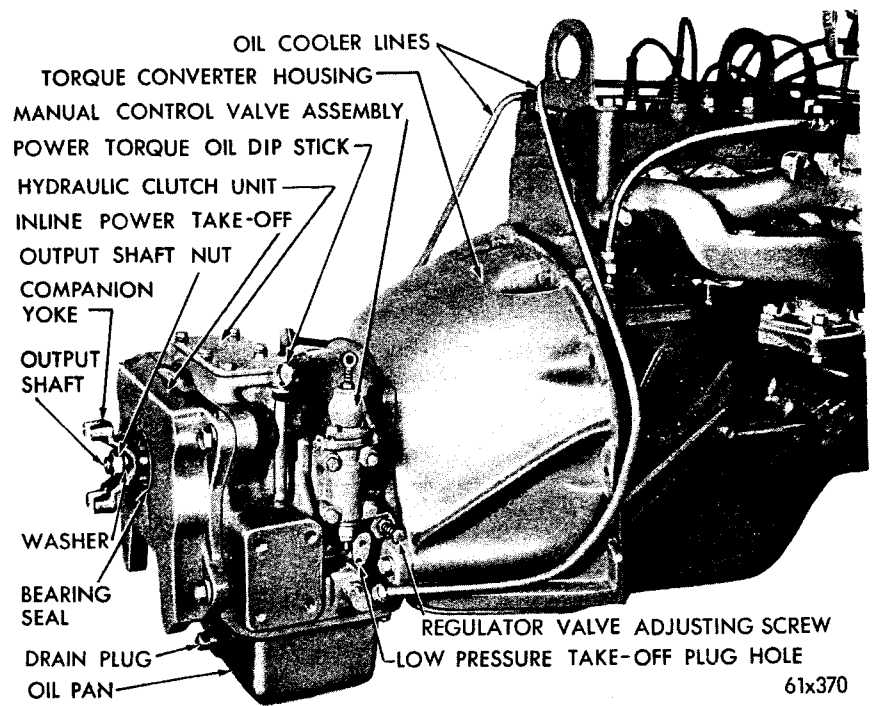

Figure 24 — In-Line Power Take-Off With Power Torque
- (1) A straight line PTO (Fig. 24).